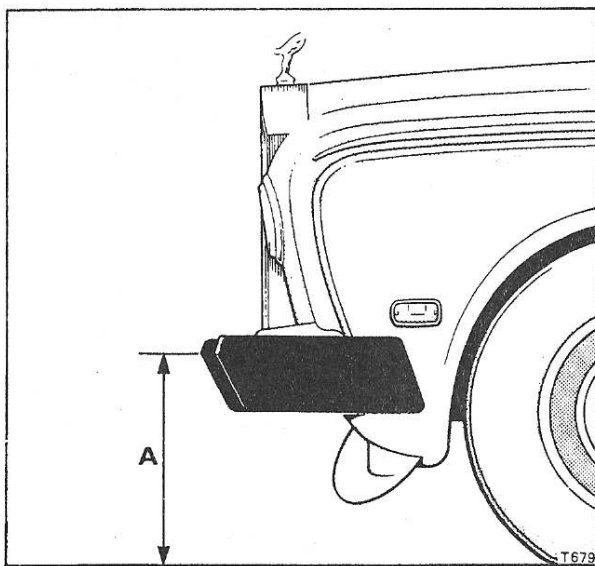

Fig. S88 Checking the bumper height
3. Stand the car on a level surface, measure the bumper height from the level surface to the position shown in Figure S88.